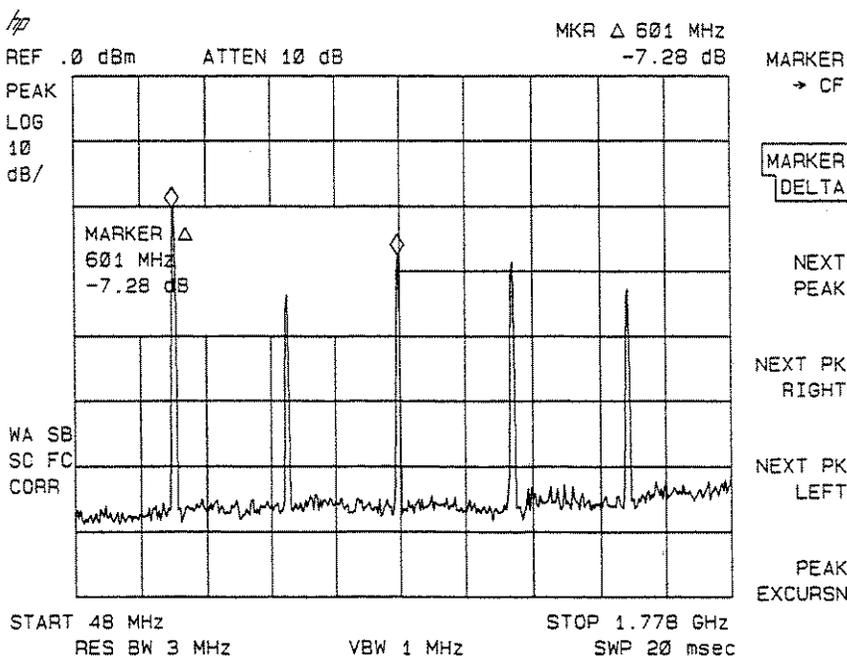

Figure 2-14. Using the Delta Meas Function
- The **DELTA MEAS** softkey also finds and displays the frequency and amplitude difference between the two highest-amplitude signals. To use this automatic function, first remove the local oscillator (LO) signal from the display by pressing **FREQUENCY**, **START FREQ**, and turning the knob until the LO signal at 0 Hz is off the screen. Press **MEAS/USER**, **MORE 1 of 2**, **DELTA MEAS**. See Figure 2-14.